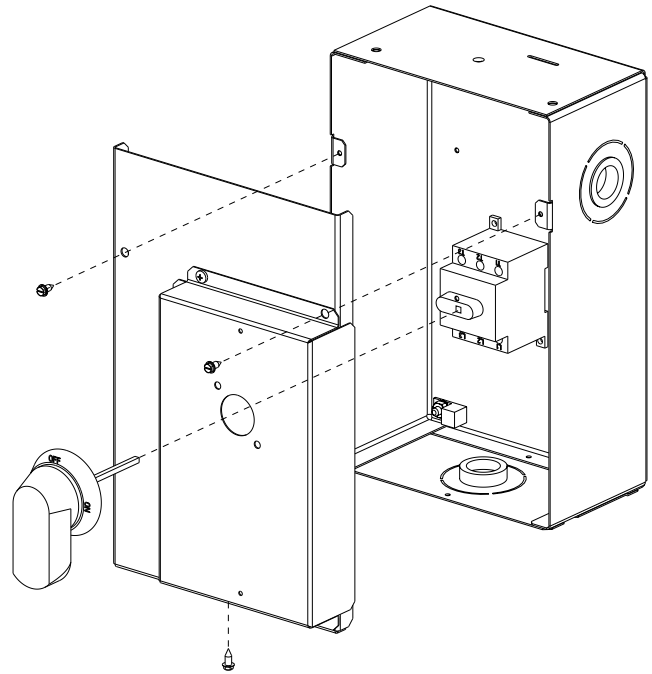

Fig. 24 — Handle and Shaft Assembly for NFD
2. Remove (3) hex screws on the NFD enclosure - (2) on the face of the cover and (1) on the bottom (see Fig. 24).
9. Secure the handle to the painted cover with (2) screws and lock washers supplied.
10. Engaging the shaft into the handle socket, re-install (3) hex screws on the NFD enclosure.